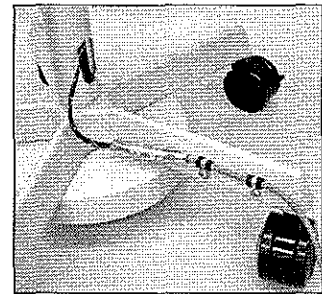

Figure 5-24a
- a. Lift the stand's shroud and disconnect the power/communications cable from the Injector pigtail cable (see Figure 5-24a).
- b. Remove the Phillips screws on the two neoprene clamps securing the cable to base leg (see Figure 5-24a) and replace the shroud.
- b. Secure the cable to the base leg (with predrilled holes) using two neoprene clamps and two Phillips screws (see Figure 5-24a).